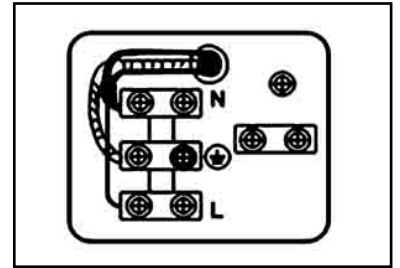

Fig. 1
- Connect the yellow/green conductor of the connection supply cable with the connection block, marked with the earthings symbol (fig. 1).
- Mount the other wires into the connector block. See marks N and L (fig. 1).